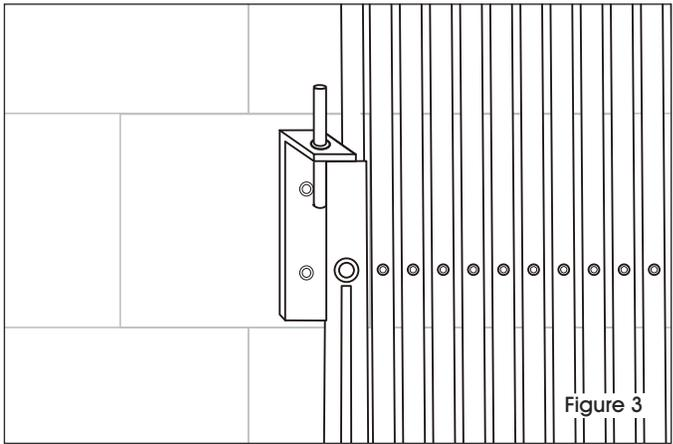

Figure 3
3. Extend gate and hang "L" bracket on top of gate to verify where it will be mounted. To release tension you may lift the wheel 1/2"-3/4" off the floor. Mark and drill pilot holes into door frame or wall. It may be easier to drill pilot holes if you remove the gate from its floor mount. Place bearing washer and bottom gate pin back into floor mount. Slip "L" bracket over top of gate and bolt (not included.) (See Figure 3)